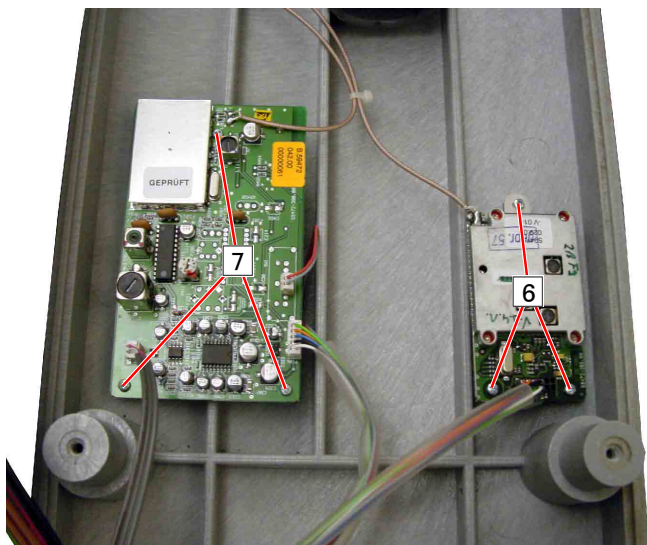

Fig. 6
**2. Removing the Data Radio Module (Fig. 6)**
**3. Removing the Receiver Board (Fig. 6)**